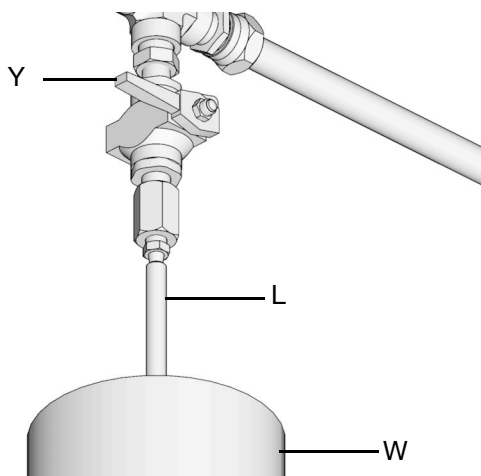

FIG. 30
- a. To relieve pressure between the Refill Pump (F) and Auto-Fill Shut Off (B), open the Supply Hose Pressure Relief Valve (Y) (FIG. 30). Pressure will be released and excess fluid will drain out of the drain tube (L) and into the lubrication overflow container (W).